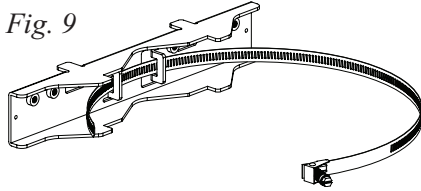

Fig. 9
1. Thread one (1) wormgear quick release strap through the slots on the back of a mounting bracket (*Fig. 9, pg. 9*).
4. Thread the second wormgear quick release strap through the slots on the back of the bottom mounting bracket (*Fig. 9, pg. 9*).